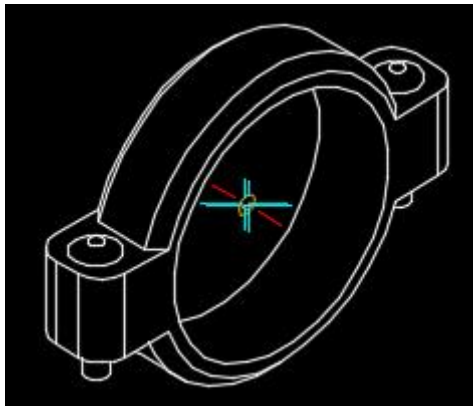

Fig. 4
Most Victaulic coupling blocks contain two (2) nodes that represent the gap takeout required for accurate pipe cut lengths. These nodes are very close together and can be difficult to differentiate on larger couplings (see Fig. 4 below).